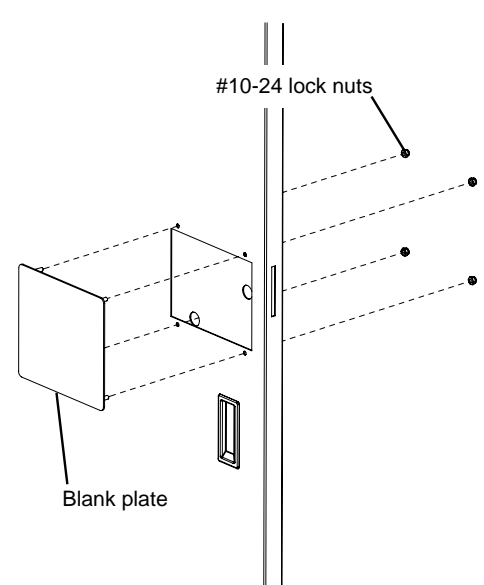

Figure 12
3. Position the blank plate into the remaining door cutout. Secure the blank plate with four #10-24 lock nuts. See figure 12.